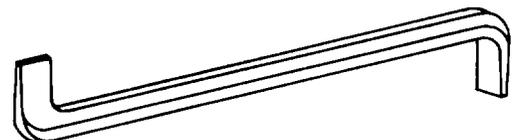

Figure 4-15. Offset Screwdriver
(3) *Offset screwdrivers.* The offset screwdriver shown in figure 4-15 is composed of a shank with a blade on each end. The blades are bent at right angles to the shank. One is parallel to the shank, the other is set at 90 degrees. This screwdriver is especially usefully in performing close work. Some offset screwdrivers are